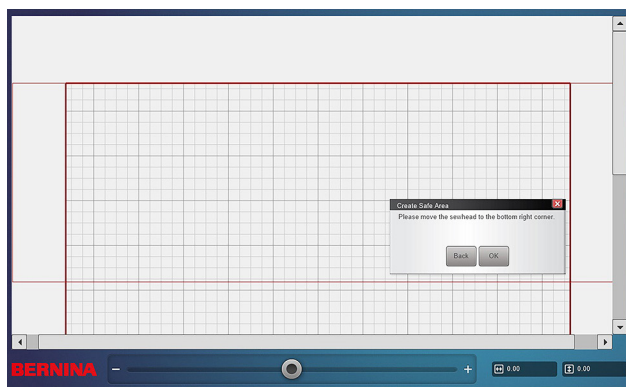

Fig. 10
6. As you move the Sewhead towards the bottom right corner, you can see the Safe Area expanding on your computer screen (Fig. 10).